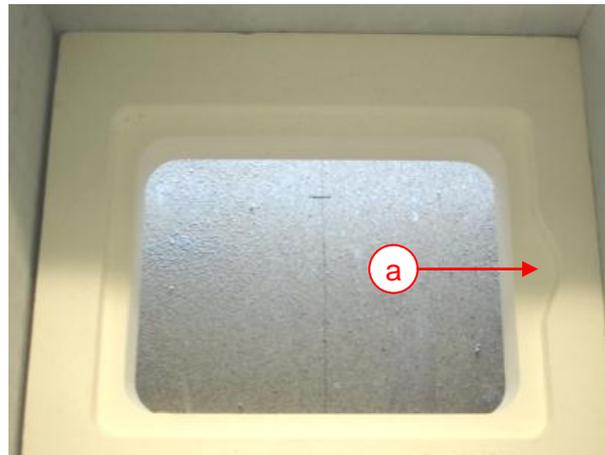

Fig. 15 – rim stone rear side.
- The right side of the rim stone (Fig. 15 a) should be placed at the wire output of the muffle. The gap between rim stone and muffle must be less than 2 mm.